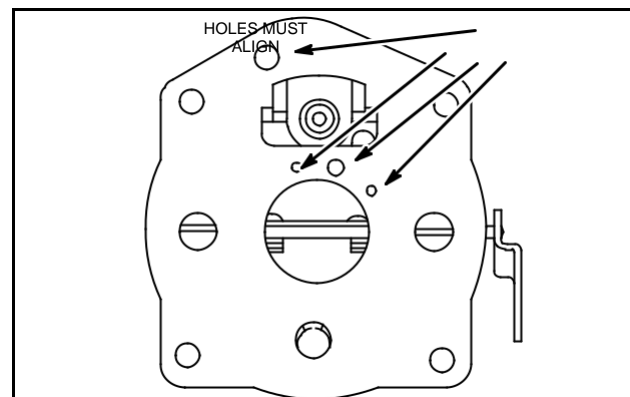

Fig. 35 – Assemble Body Gasket
3. Assemble body gasket to upper body as shown, Fig. 35.